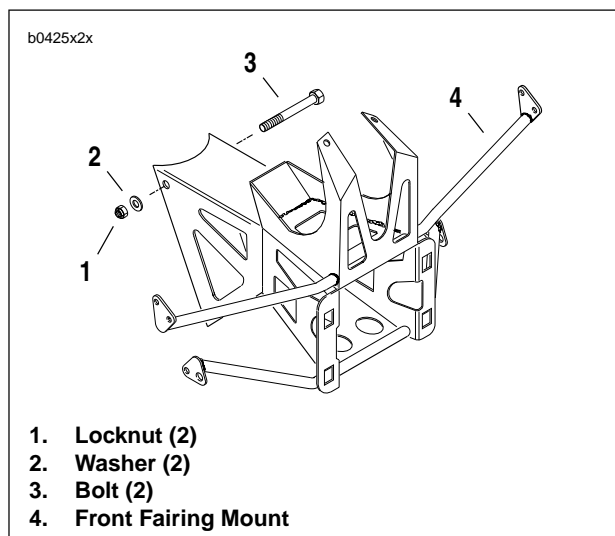
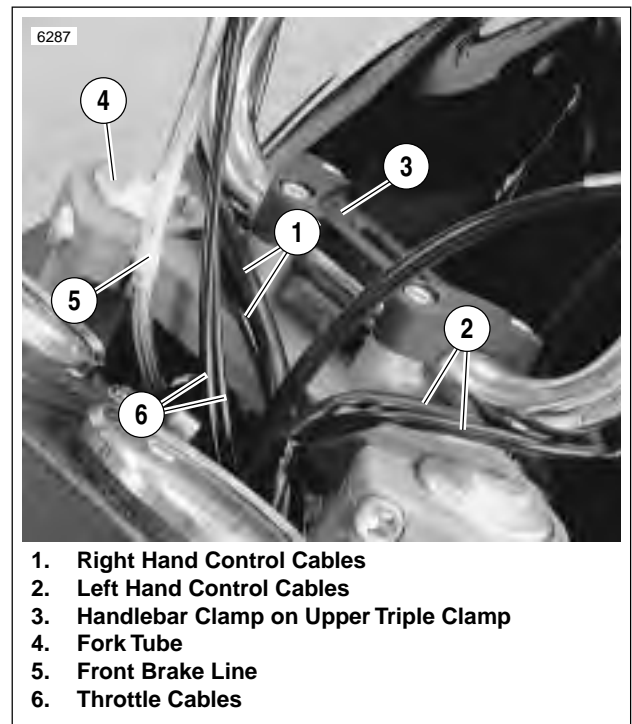

Figure 2-106. Front Fairing Mount
Figure 2-107. Front Fairing Mount Alignment
5. See Figure 2-106. Remove two locknuts (1), washers (2) and bolts (3) to detach front fairing mount from steering head.
- a. See Figure 2-107. Front brake line (5) must run on gearcase cover side of fairing mount.
- b. Throttle cables (6) and all other wiring must run on primary cover side of fairing mount.
- c. See Figure 2-106. Attach fairing mount to steering head using two locknuts (1), washers (2) and bolts (3). Tighten to 22-25 ft-lbs (30-34 Nm).